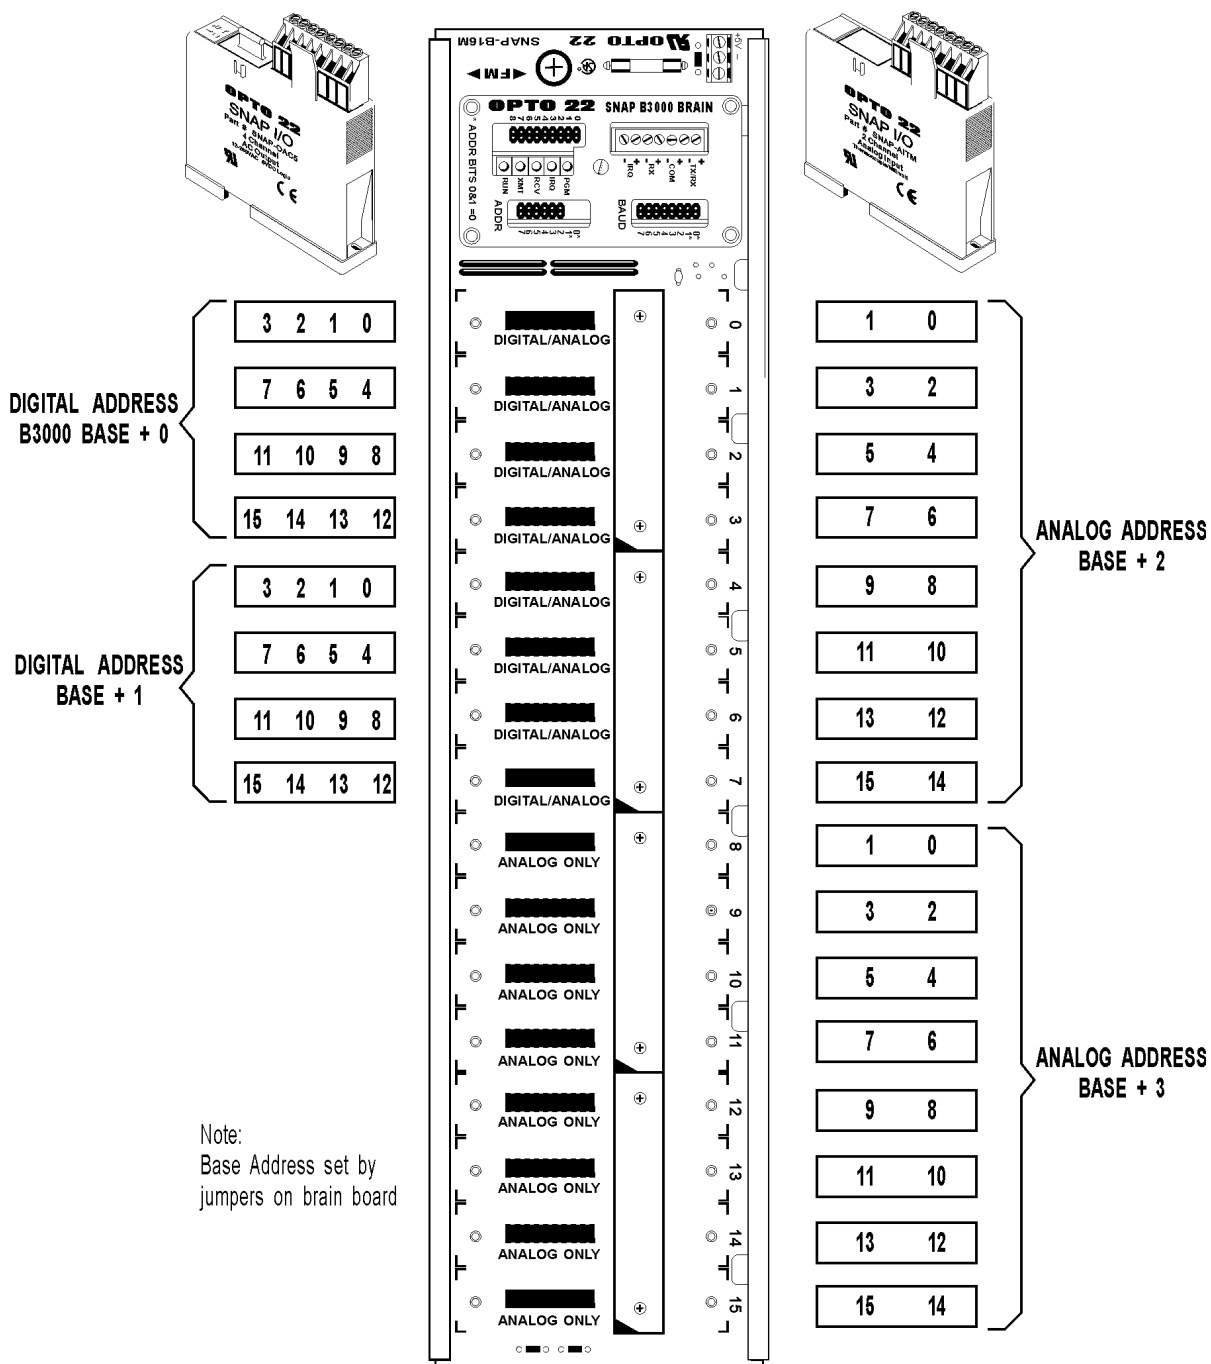

Figure 1-1: SNAP I/O Rack
- See Figure 1-1 on page 14 for B3000 SNAP I/O mapping.
The layout is illustrated in Figure 1-1 on the previous page.